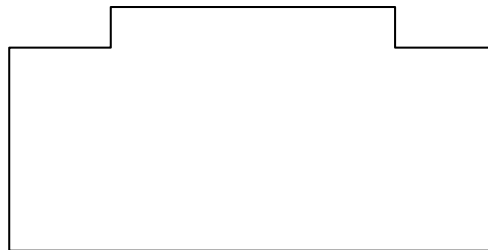

Fig. 6.7 First example – outline to dimension
1. Construct the outline Fig. 6.7 using the **Line** tool. Its dimensions are shown in Fig. 6.8.